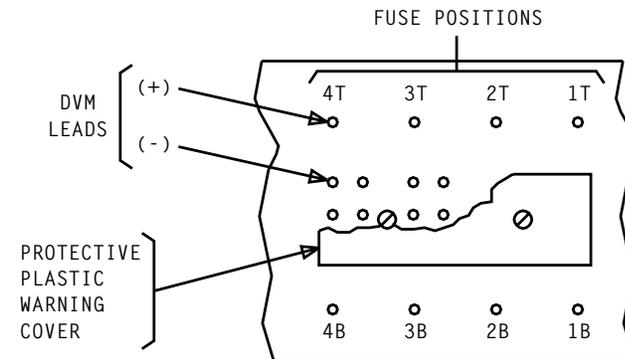

Figure 1 - DVM Connection Location
3. Connect plus (+) lead of DVM to unused fuse position per TABLE A and Figure 1
4. Connect common (-) lead of DVM to unused comb pin per TABLE A and Figure 1